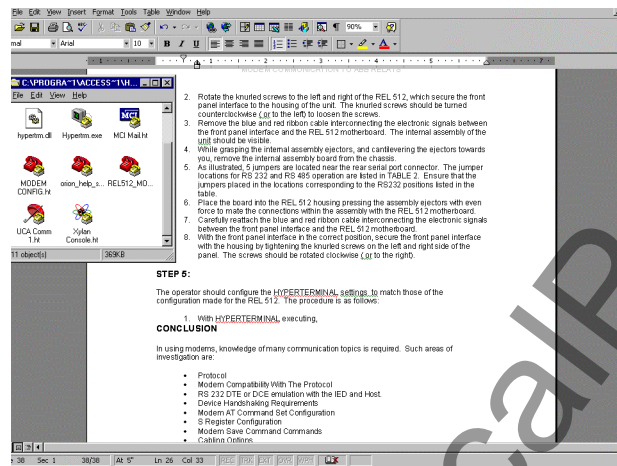

Figure 33 – Hyperterminal Selection Screen
1. Select HYPERTERMINAL from the WINDOWS menu to reveal the following screen illustrated in Figure 33.
NOTE this local modem is only configured for DIAL OUT capability – no auto answer. Additionally, all commands are echo'd back to the terminal for easy access and troubleshooting. Upon Power UP the NVRAM defaults are loaded into memory. It is also illustrates in Figure 33 that handshaking is enabled. No other parameters have been changed from the default settings.